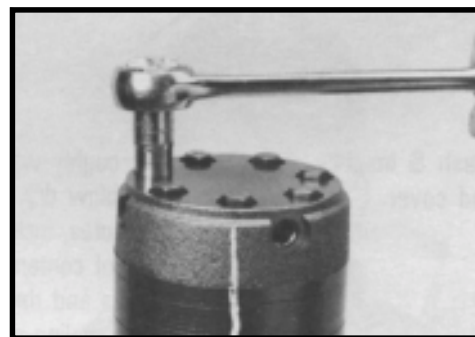
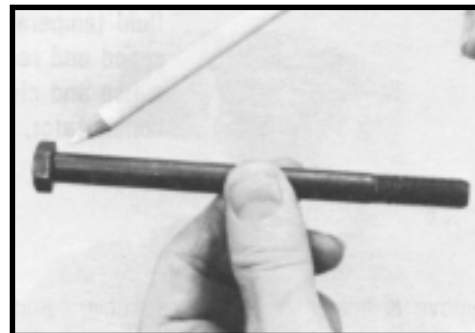

Figure 5
Figure 6
3. Remove the five, six, or seven special ring head bolts (1, 1A, 1B, or 1C) using an appropriate 1/2 or 9/16 inch size socket. SEE FIGURE 5. Inspect bolts for damaged threads, or sealing rings, under the bolt head. Replace damaged bolts. SEE FIGURE 6.